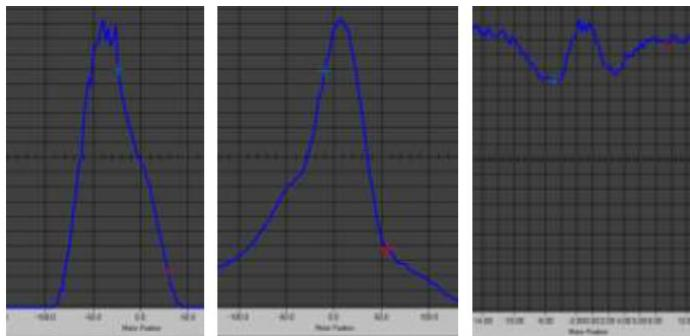

Figure 5-10 Examples of graphs with (a) Noisy Peak, (b) Ideal Peak, (c) Over/Under Illumination or ineffective metric.
- 6- The graph module in the Video Focus Panel should now display the Metric curve and the predicted metric curve. Ensure that the system has accurately predicted the metric. If it has not, try increasing the backlash or attempt a different focussing algorithm. If the Metric and predicted metric agree closely (see figure 5-10 for an example of this), the video Autofocus is ready to use.
5.3. CELL AND MODULE (CM)